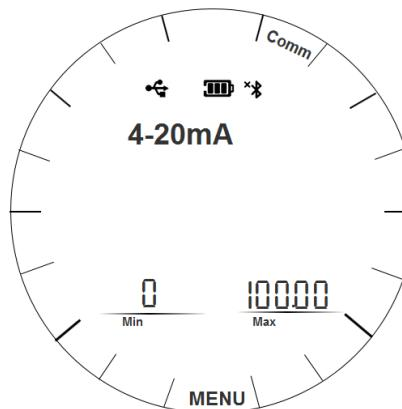

Figure19. 4-20mA ranges setting interface
- When the 4-20mA module is enabled, the range setting interface is shown in Figure 19. The sub display area provides the setting of the upper and lower limits of the range, and the unit is same as the main display unit of the gauge.